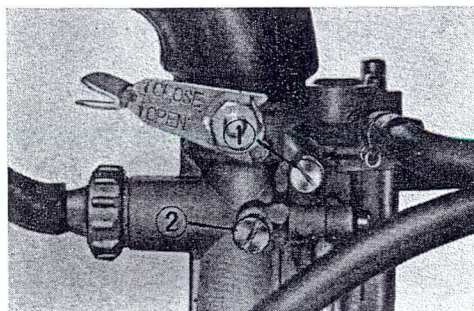

Fig. 3-22.
Fig. 3-23 illustrates the necessary function to stabilize idling (up to 2000 rpm). This is adjusted by the air screw ① and throttle stop screw ② shown in Fig. 3-22.